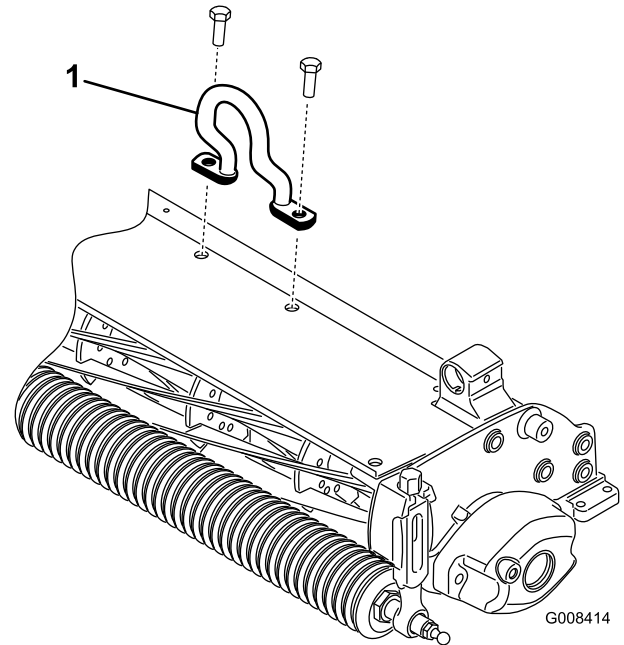

Figure 6
2. Install the offset link (Figure 6) to the top of the dethatching unit with 2 capscrews.